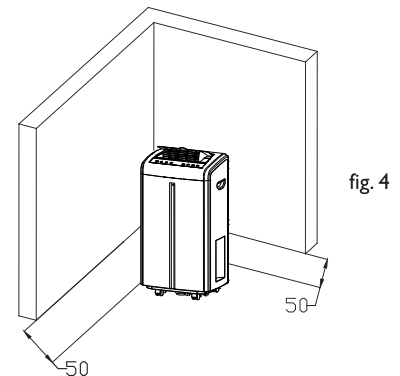

fig. 4
4. Make sure the unit is upright and there are no obstructions to the air inlets and outlet grills(see fig 4)